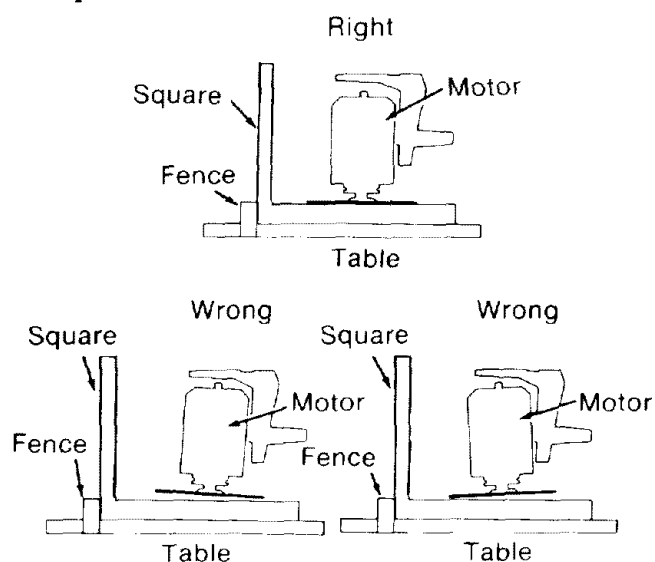

Fig. 95
8. If the square is flush with the *blade* after each rotation (Figure 95) go to step 18, or
If there is a gap between the square and the *blade* after any rotation (Figure 95) go to step 9.